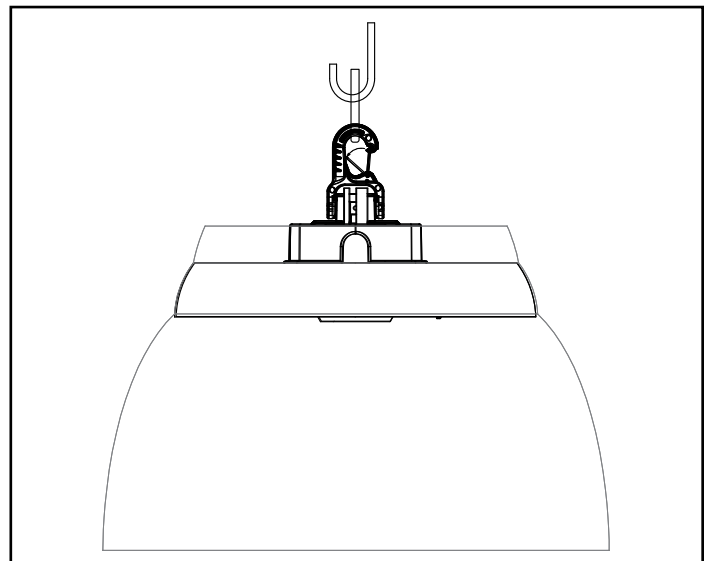

Figure 4.
2. Push latch to unlock (Fig. 4).